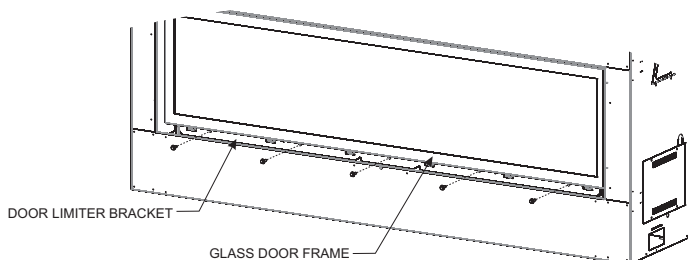

Figure 1
2. On some models, before the Glass Door can be removed, a Door Limiter Bracket must be removed. Using a 5/16-inch hex driver with extension, remove (4 or 5) #10-24 x 3/8-inch screws that retain the Limiter Bracket to the bottom flange of the Glass Door frame, and set the bracket aside. **See Figure 1.**